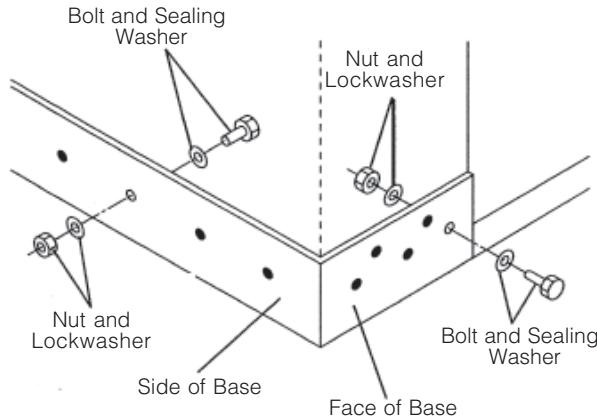

Figure 3-9. Bolt Positions for Corner Panel
6. Attach panel to base. Ensure bolts along face of base are installed with the bolt heads located on outside of base, and bolts along side of base are installed with the bolt heads located on inside of base (see Figure 3-9).